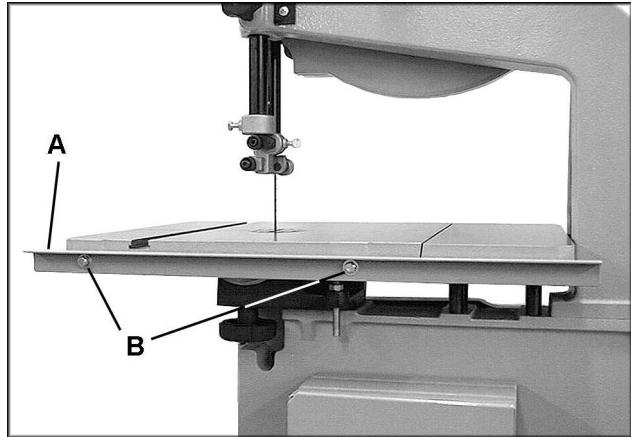
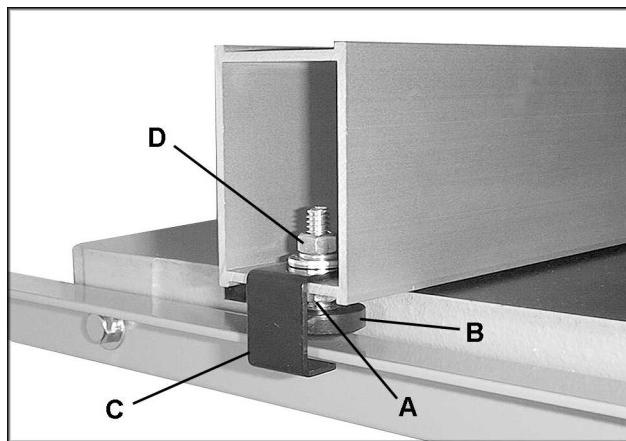

Fig. 13
Fig. 17
- Mount rear rail (A, Fig. 13) to the band saw table using two M6 x 20 hex cap screws, two 1/4" lock washers and two 1/4" flat washers (B, Fig. 13). Do not tighten yet.
6. Thread a hex nut (A, Fig. 17) onto the sliding pad (B, Fig. 17) and insert through the fence and rear hook (C, Fig. 17). Secure in place using a hex nut, lock washer and flat washer (D, Fig. 17). The hook (C, Fig. 17) should be adjusted so that it overlaps the rear rail by approximately 1/8".
7. When the fence assembly is placed on the table, the rear hook (C, Fig. 17) should engage the rear rail.
10. Also adjust the "play" of the rear rail (B, Fig. 13) until the fence/table gap is equal. The rails and rip fence should now be at the proper height in relation to the table. Of course, the rear hook (Fig. 17) can be adjusted further to help make the fence/table gap equal.